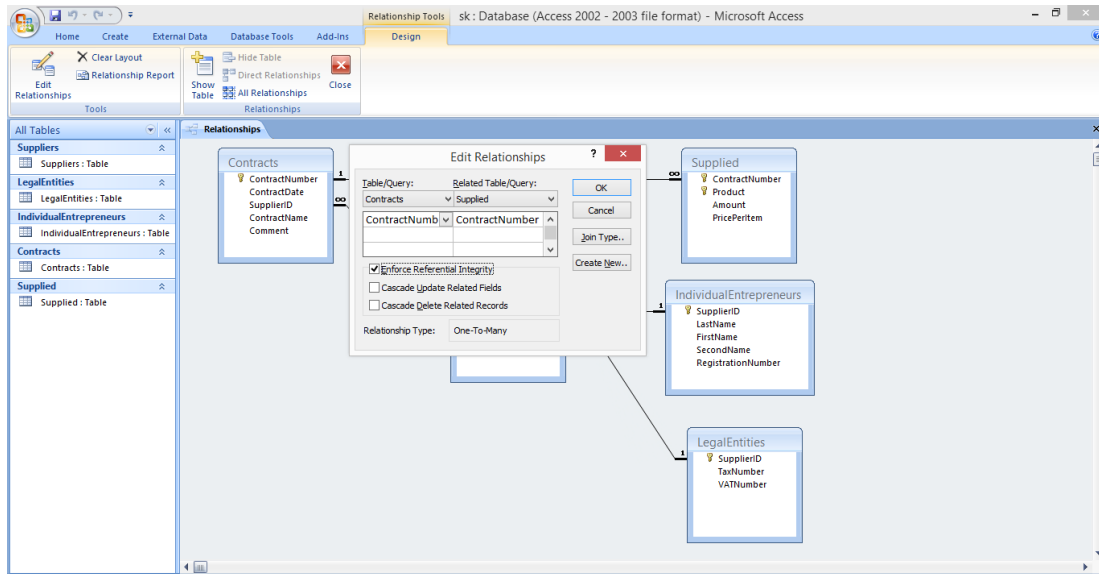

Figure 6
7) Double click on each relationship between database tables and check “Enforce Referential Integrity” (figure 6);